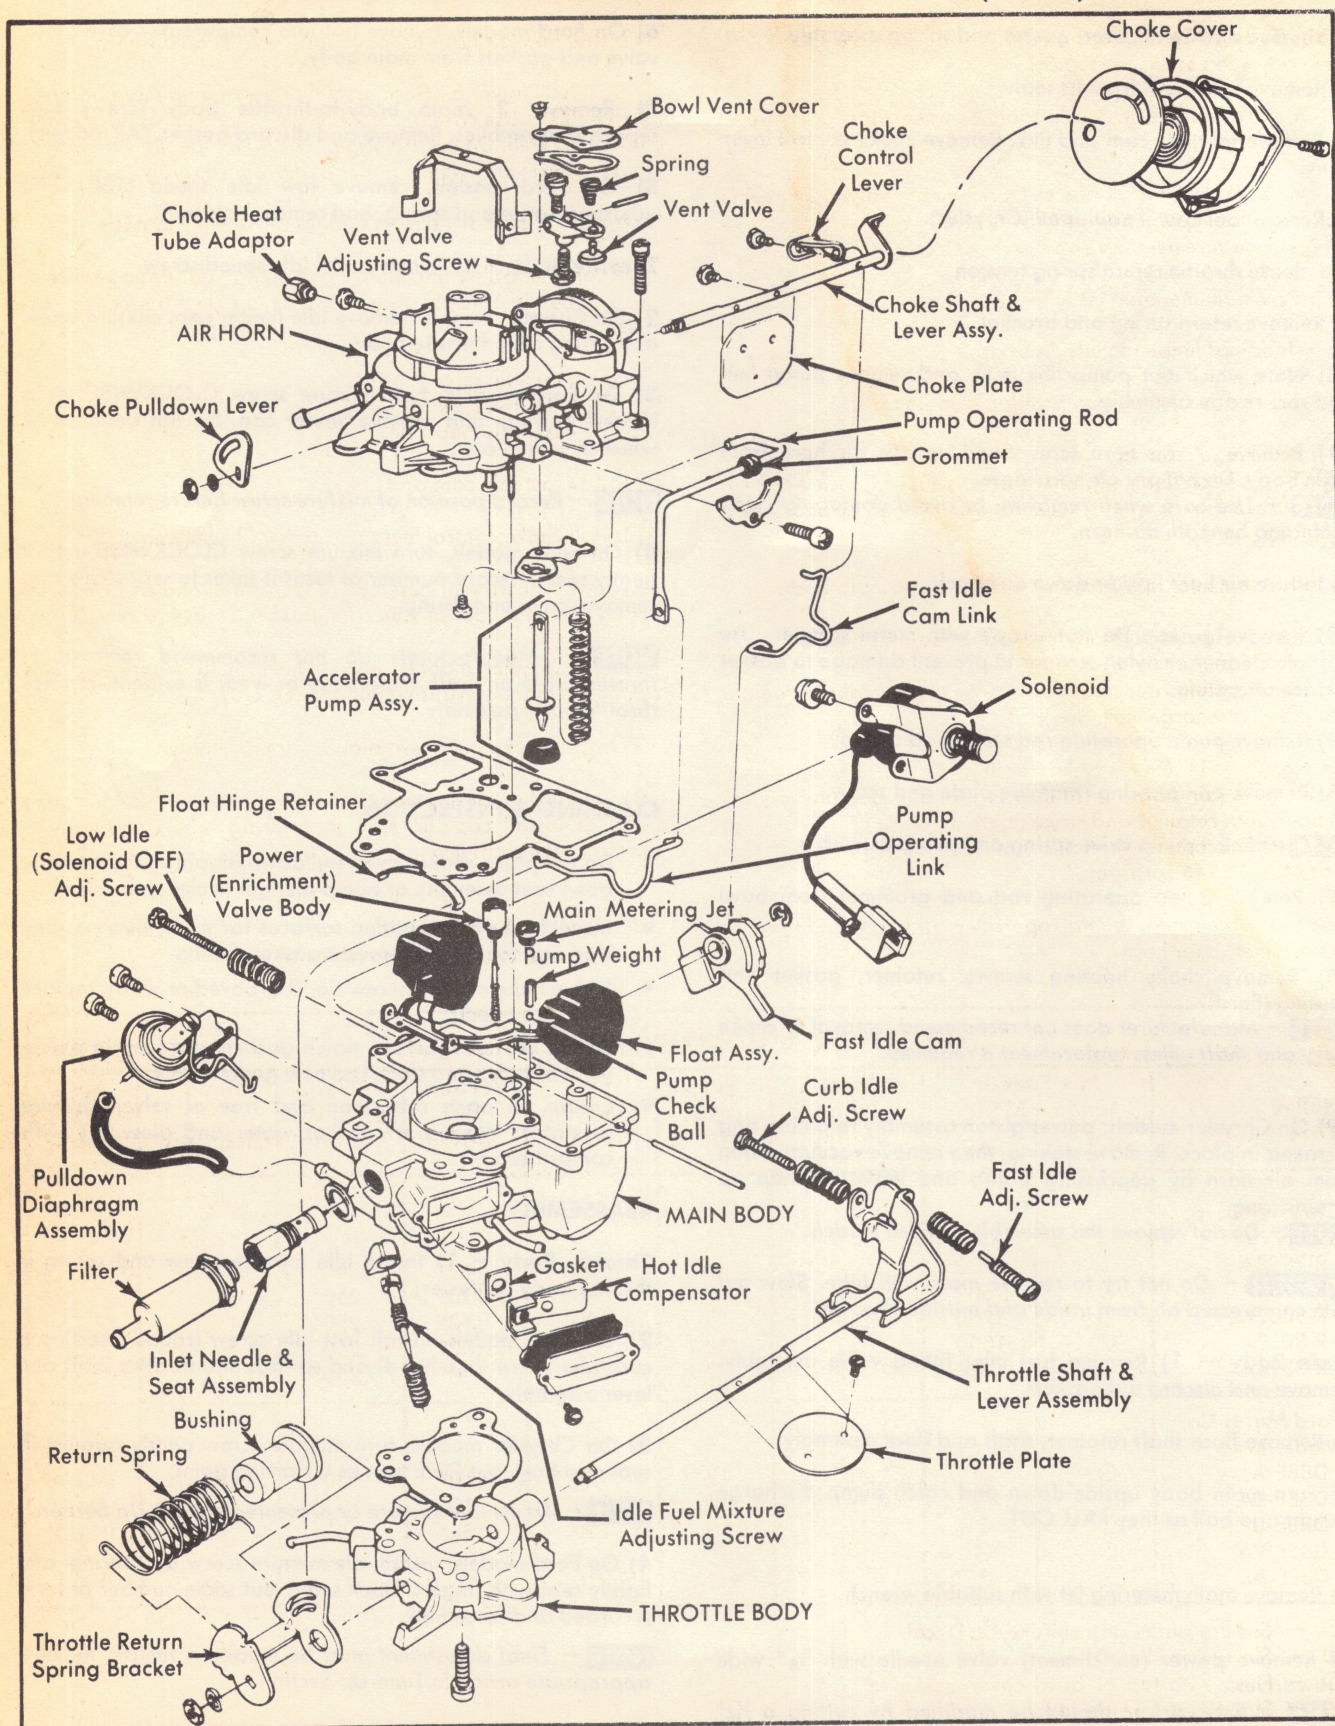

Fig. 9 Exploded View Of Holley Model 1946 Single Barrel Carburetor Showing Parts Relationships
10) Install accelerator pump discharge check ball and weight into pump discharge well. See Fig. 9.